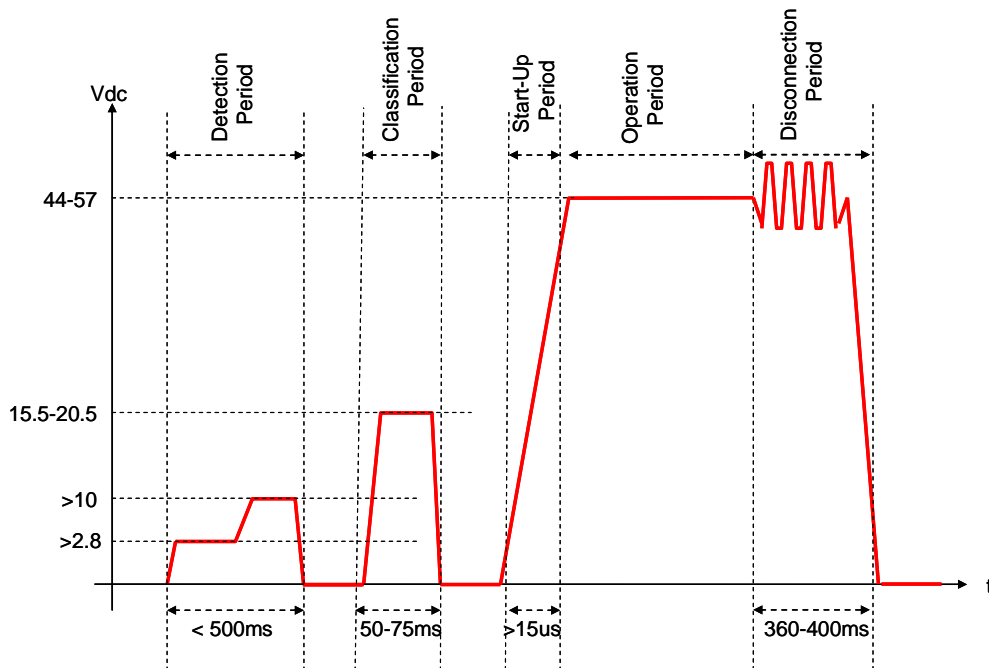

Figure 10 – PSE's signal during PoE process
Figure 10 below illustrates the basic necessary elements required during the PoE power provisioning cycle. The PSE is the manager of the PoE process. In the beginning, only small voltage level is induced on the port's output, till a valid PD is detected during the Detection period (1). The PSE may choose to perform classification (2), to estimate the amount of power to be consumed by this PD. After a time-controlled start-up (3), the PSE begins supplying the 48 Vdc level to the PD (4), till it is physically or electrically disconnected (5). Upon disconnection, voltage and power shut down. Right afterwards, the cycle is restarted (1).